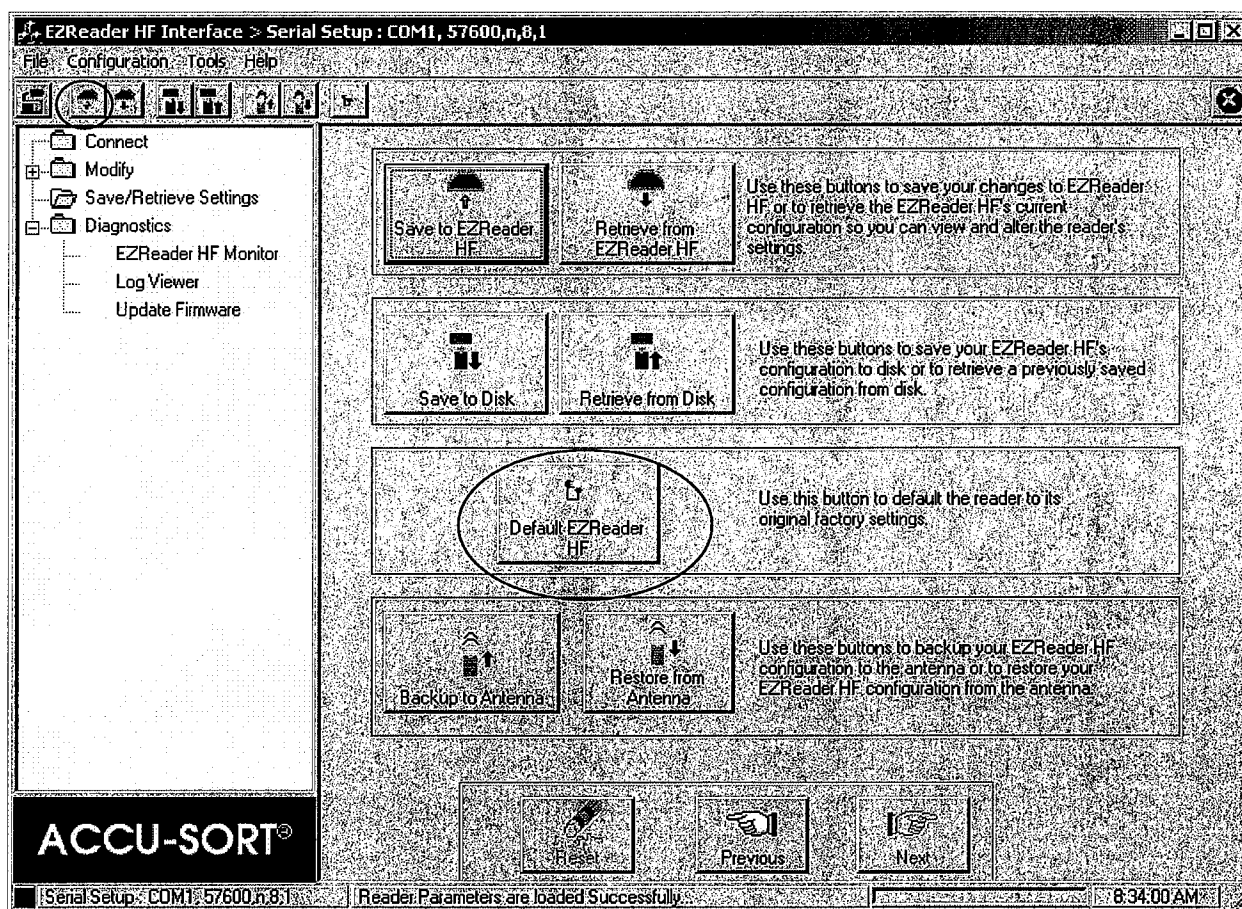

Figure 30
9.29 Go to the Save/Retrieve Screen of the GUI and click the 'Default EZReader HF Button after setting the defaults click the SAVE ICON. See Figure 30 for reference.